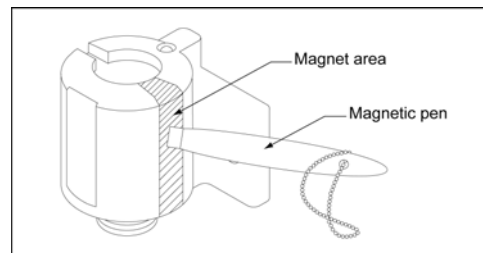

Figure 21. Sensor Magnet and Magnetic Pen
8. Using the pen magnet, place it in the magnet area as shown in Figure 21.